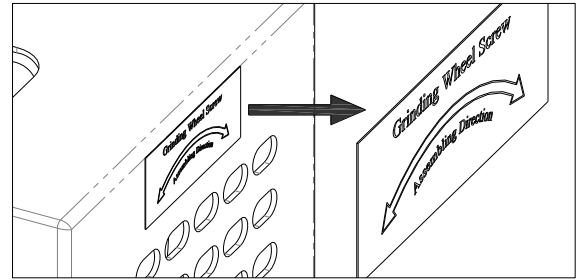

Fig. 20-1
- ① Please unplug the power cord.
- ② Please confirm the screw direction on the grinding wheel cover before the change of grinding wheel. (Fig. 20-1)